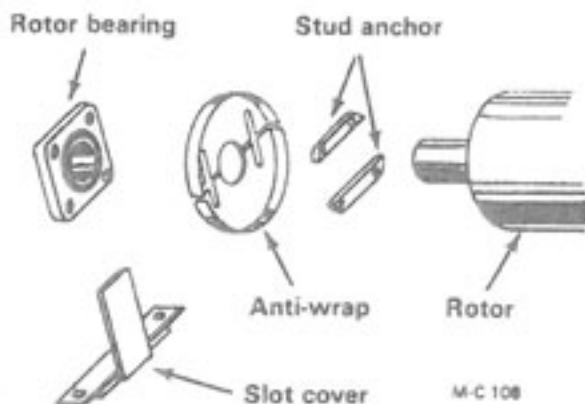

Figure 28
4. Place the four mounting capscrews through the bearing and mower body. Refer to Figure 28. Partially thread the capscrews into the nut bars. Slide the two anti-wrap halves over the capscrews. Tighten the capscrews and bearing collar set screws.
6. Place the four mounting capscrews through the bearing and mower body. Refer to Figure 28. Partially thread the capscrews into the nut bars. Slide the two anti-wrap halves over the capscrews. Tighten the capscrews and bearing lock collar set screws.